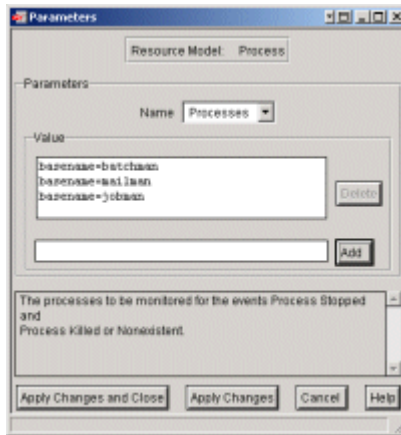

Figure 9-86 Parameters for batchman, mailman, and jobman processes
7. Add the parameter values `basename=mailman` and `basename=jobman` using the same procedure. The Value list displays the new values as shown in Figure 9-86 on page 497.